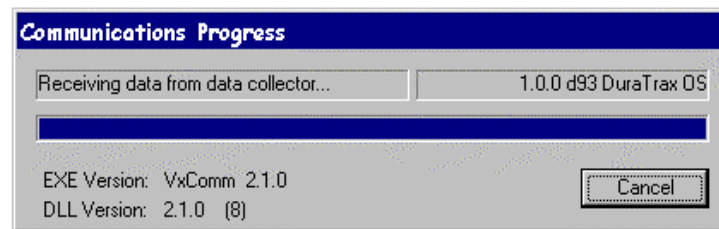

Figure 3-87 Communications Progress Window
81. A window opens to report the progress of the transfer (Figure 3-87).